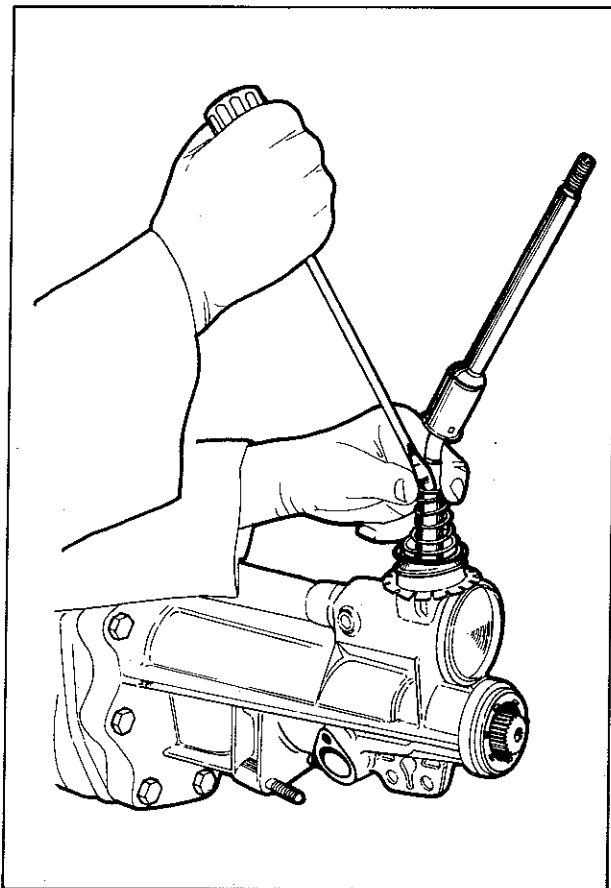
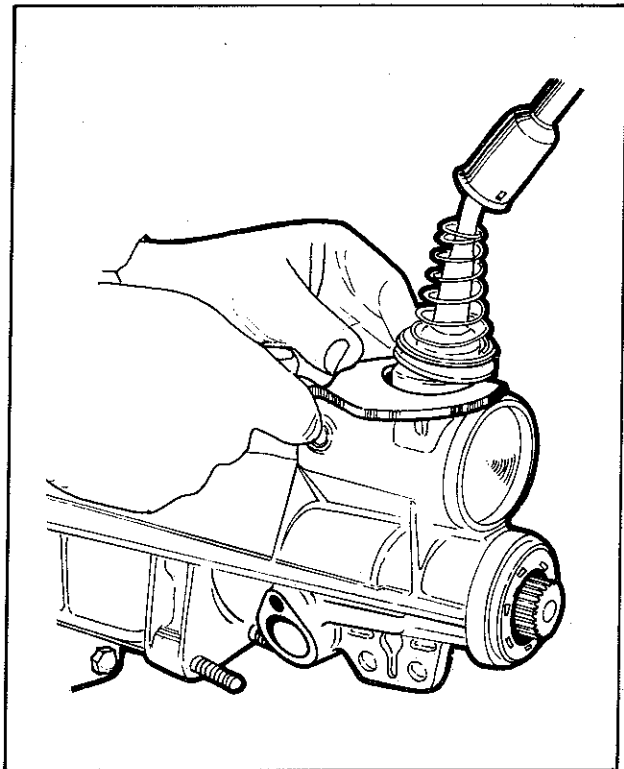

Fig. 2—Removing conical spring retainer
Fig. 3—Removing gear lever assembly
- (3) Remove the starter motor.
- (4) Remove propeller shaft, back-up light switch leads and speedometer cable.
- (5) Disconnect the clutch cable.
- (6) Remove the clutch housing cover.
- (7) From inside the vehicle, remove vehicle console, dust seal and gearshift knob. It is possible to remove the gearlever from beneath the vehicle allowing it to "hang" in the gearlever boot.
- (8) Using a screwdriver, remove gearshift lever conical spring upper retainer, Fig. 2.
- (9) Unlock all the bent tabs on the nylon pivot ball seat.
- (10) Raise the conical spring, spring seat and spherical washer up the gearshift lever.
- (11) Using tool E21M21 on the flats of the pivot ball seat, unscrew the seat and remove the gear lever assembly from the extension housing, Fig. 3.
- (12) Support the rear of the engine with a suitable jack and remove the rear crossmember.
- (13) Remove the bolts attaching the transmission to the engine and remove the transmission.